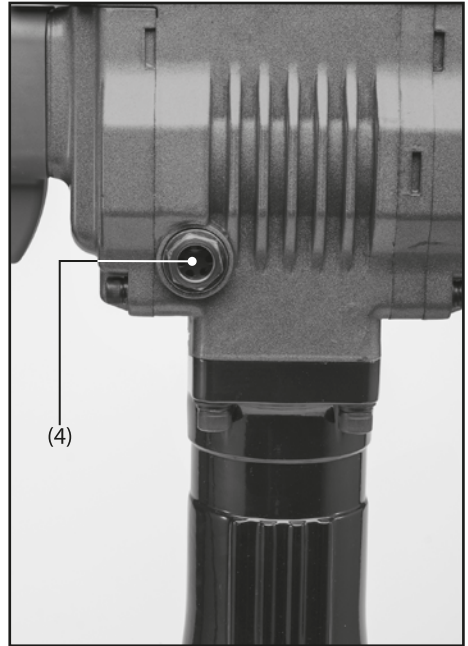

FIG.2
- FIG. 2
To check, hold the tool vertically and rest on the floor. The sight glass window (4) is situated on the front of the product, Fig.2. When the oil level is 2-3mm above the bottom of the sight glass window the oil must be refilled.